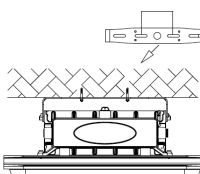

Fig. 9
5. Hang the fixture into the lifting hook or chain and protect it from falling (Fig. 9).